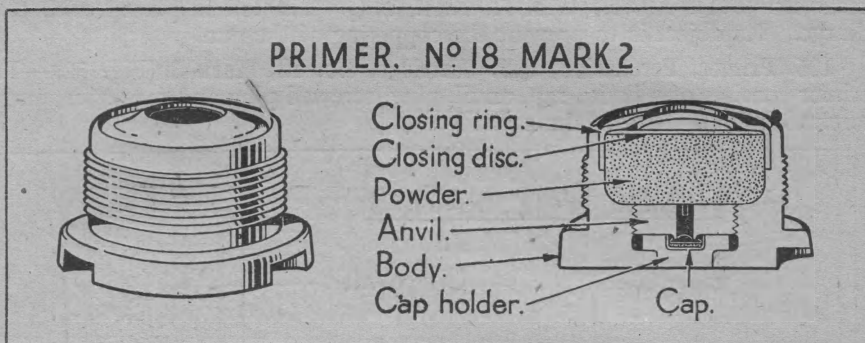

FIG. 53.
**107. Primer, Percussion, Q.F. Cartridge, No. 18, Mark 1** (Fig. 53).—The primer consists of a body, cap holder, cap, anvil, closing ring and closing disc.